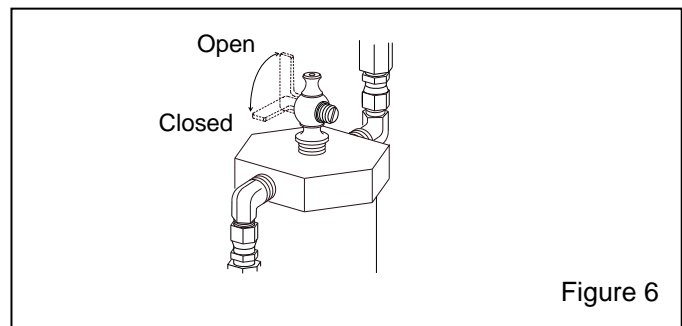

Figure 6
**3.2.10** Make sure that the safety petcock located on the inlet valve is open. Open position is when the lever is in-line with the petcock, as shown in Figure 6.